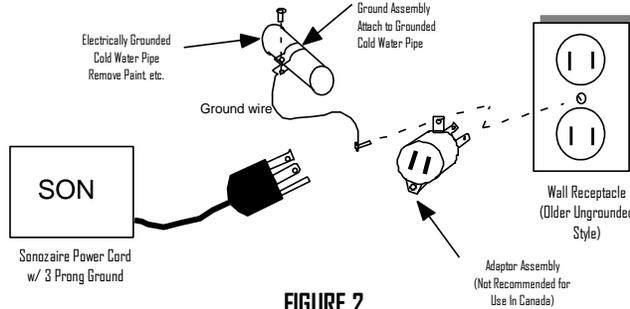

FIGURE 2
**115VAC** - When a two-prong receptacle is encountered (Figure 2), a temporary connection may be made where local codes permit (not recommended for use in Canada) using an adapter (P & S #1919 or equivalent). The adapter provides a means for plugging a three-prong cord set into a two-prong receptacle. The adapter should not be used without a proper ground connection. Attaching the adapter ground wire to the receptacle cover screw will not ground the machine, unless it is known that the cover screw is grounded through the "house" wiring. To be certain to obtain proper ground when using this adapter, attach the machine ground wire to a metallic cold water pipe, as shown in Figure 2.